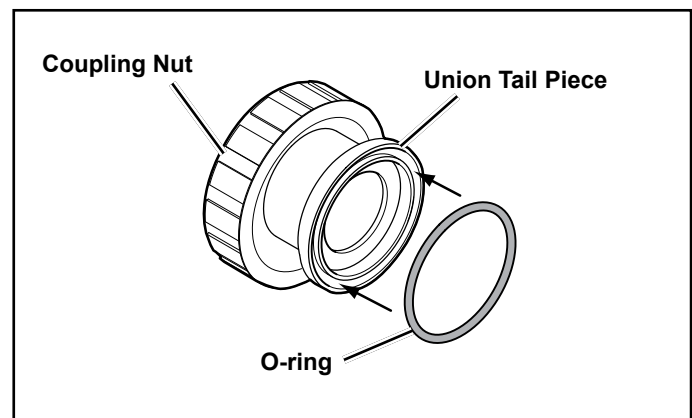

Figure 2. O-ring Placement
3. Remove the two (2) o-rings from the packaging.
4. Place the o-rings on the face of the union tail pieces, where the face of the Slide Valve union will connect to the filter bulkheads, see Figure 2. Make sure each o-ring is properly seated into the groove of each union tail piece.